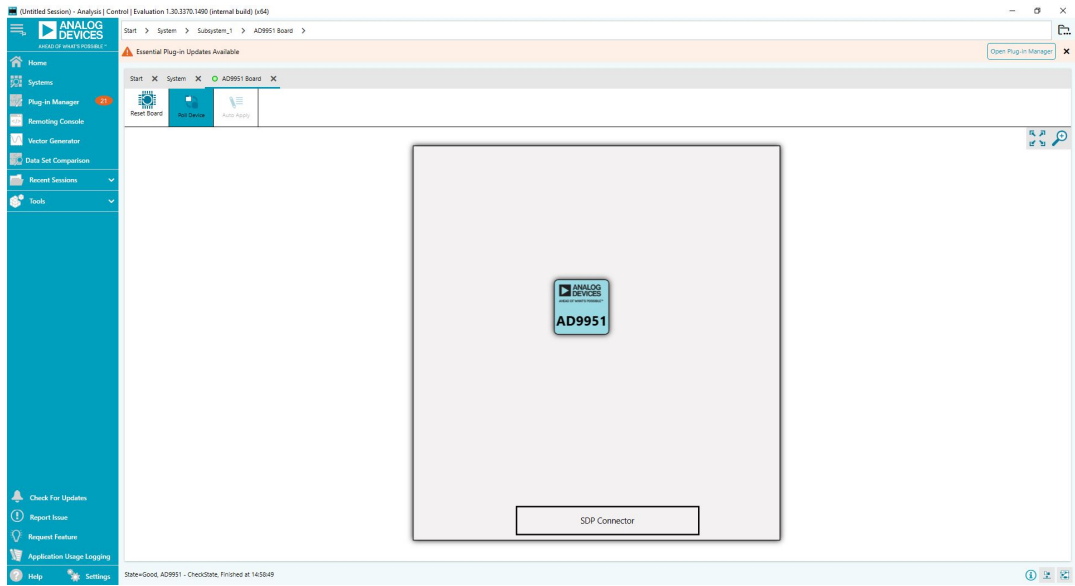

Figure 4. ACE Software AD9951 Evaluation Board Page
2. Double-click the **AD9951 Board** icon and the tab shown in the **Figure 4** then appears.